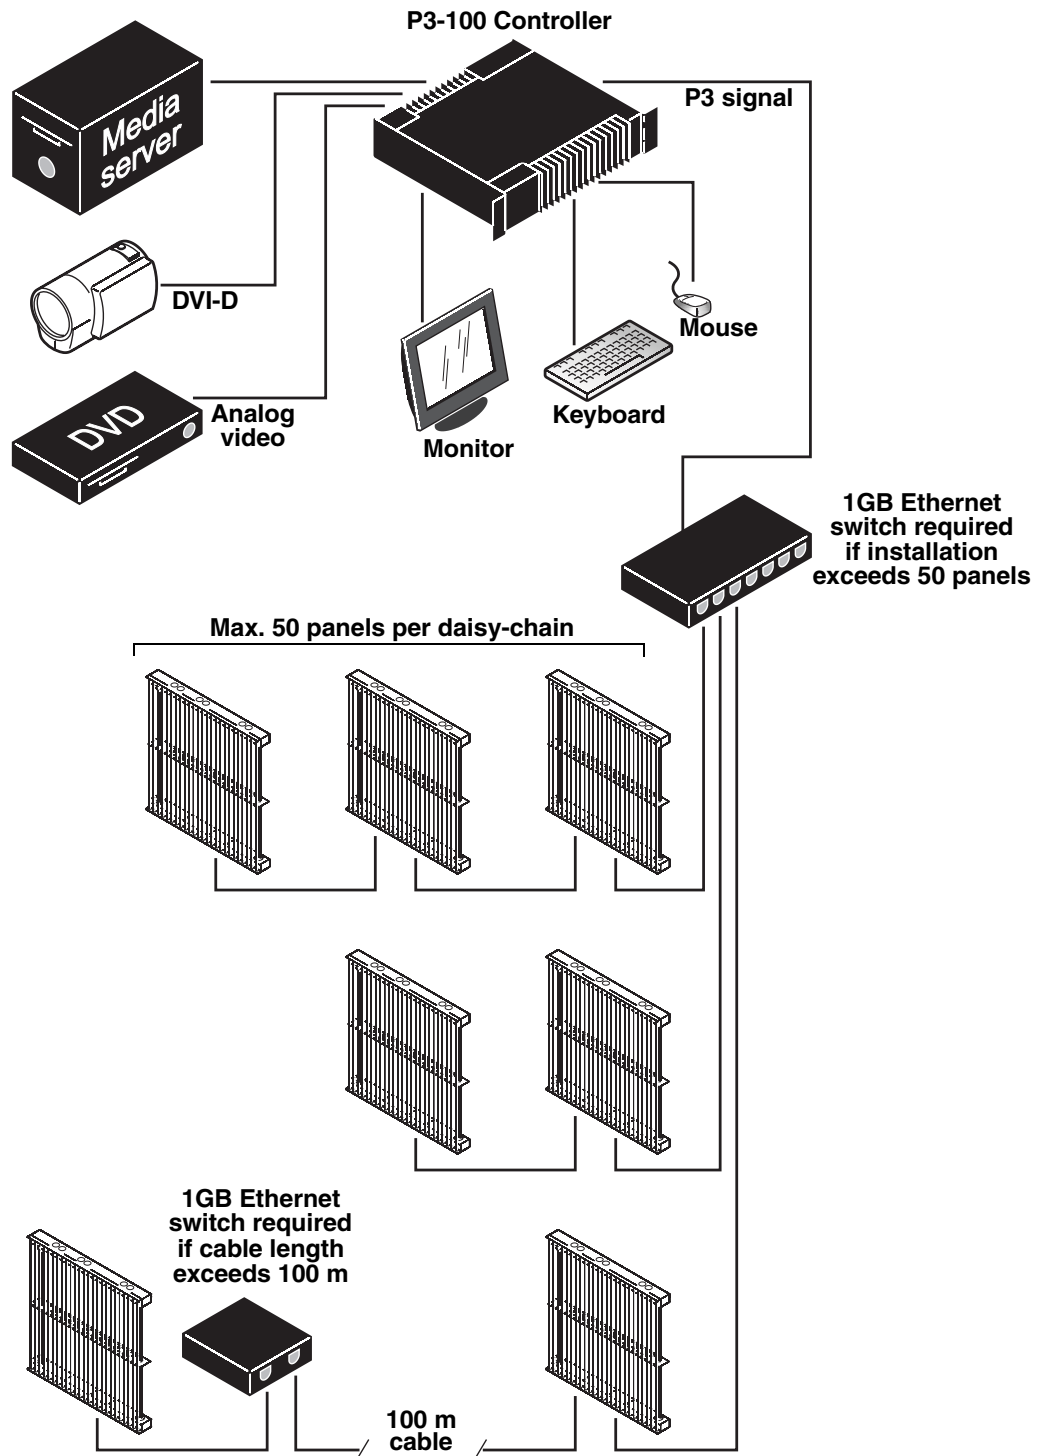

Figure 3: System layout
1. See Figure 3 on page 10 for a system layout diagram.
Figure 3 is given for reference only and shows how an entire system consisting of a P3-100 System Controller and LC Plus panels should be laid out and connected. For full details of panel installation – including important safety information – refer to the user documentation supplied with panels and available for download free of charge from www.martin.com